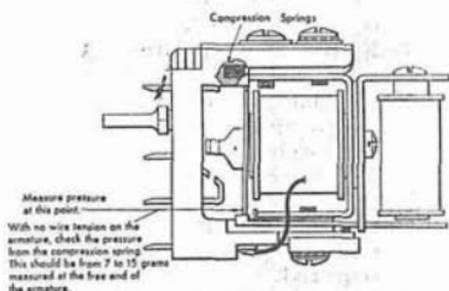

Figure 22. Adjustment 2
- Figure 22. With the contact wires removed, the two relay armature pivot springs must exert 7 to 15 grams pressure against the relay armature at its free end.